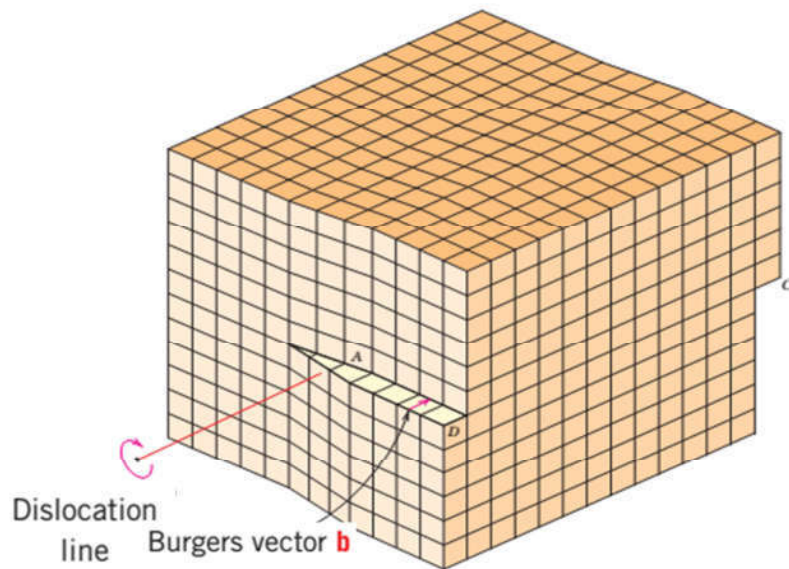

Figure 5. Screw dislocation
- 2) **Screw dislocation:** a linear crystalline defect related with lattice distortion when normally parallel planes are joined together to form helical path or ramp, as shown in **Figure 5**.